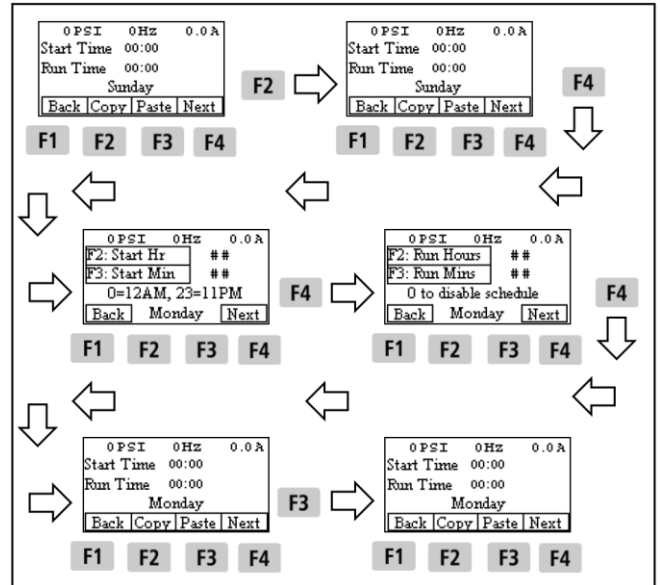

Figure 12-17. Copying Time Of Day Start Times To Another Day.
- 11. Certain days of the week may have the same start time and run time. This may be accomplished quickly with the Copy / Paste functions. See Figure 12-17. Example: Sunday and Monday have the same start time and run time:
- b. Press the **F4** Next key 3 times to get to the review screen for the next day (Monday). If the day you wish to copy the start and run times to is a later day in the week, press the **F4** Next key as many times as necessary to get to the review screen for that particular day.